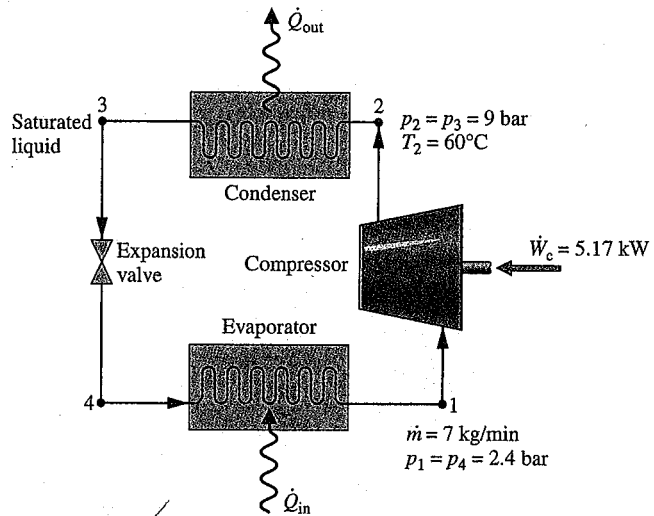

Fig. P6.161
6.161 Figure P6.161 provides the schematic of a heat pump using Refrigerant 134a as the working fluid, together with steady-state data at key points. The mass flow rate of the refrigerant is 7 kg/min, and the power input to the compressor is 5.17 kW. (a) Determine the coefficient of performance for the heat pump. (b) If the valve were replaced by a turbine, power could be produced, thereby reducing the power requirement of the heat pump system. Would you recommend this *power-saving* measure? Explain.